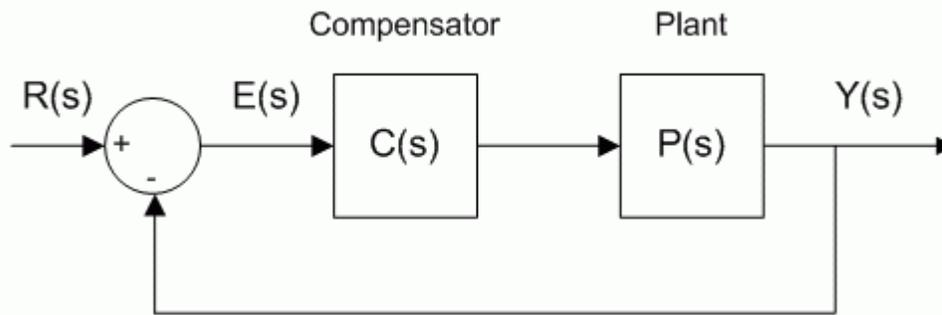

Figure 1: Unity feedback system.
The block diagram shown in Figure 1 is a general unity feedback system with a compensator  $C(s)$  and a transfer function representing the plant,  $P(s)$ . The measured output,  $Y(s)$ , is supposed to track the reference signal  $R(s)$  and the tracking has to yield to certain specifications.
The output of the system shown in Figure 1 is
1. Find the error transfer function  $E(s)$  in Figure 1 in terms of the reference  $R(s)$ , the plant  $P(s)$ ,